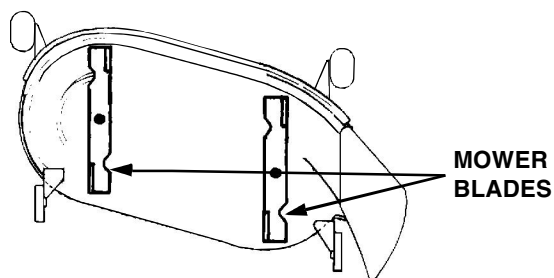

Figure 5-8
2. Position the mower blades so the ends of each blade point to the front and the rear of the tractor (See Figure 5-8). Lower the tractor implement lift handle to a mid-height setting.